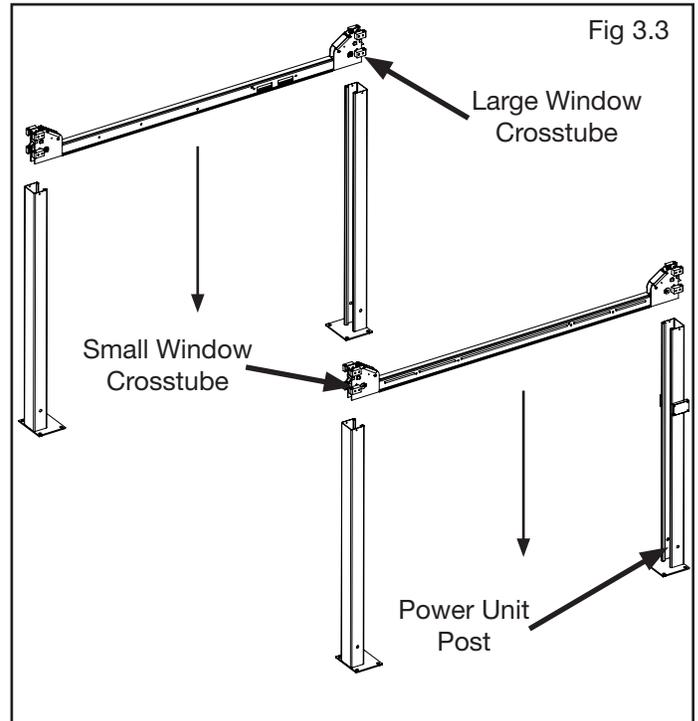

Fig 3.3
3. Using a forklift or crane, raise the cross tubes (making sure the Plastic Slide Blocks are still in position) and drop down into the top of the posts. **NOTE:** The Sheave Windows should be positioned inward and adjacent the Power Unit Post. (See Fig. 3.3)